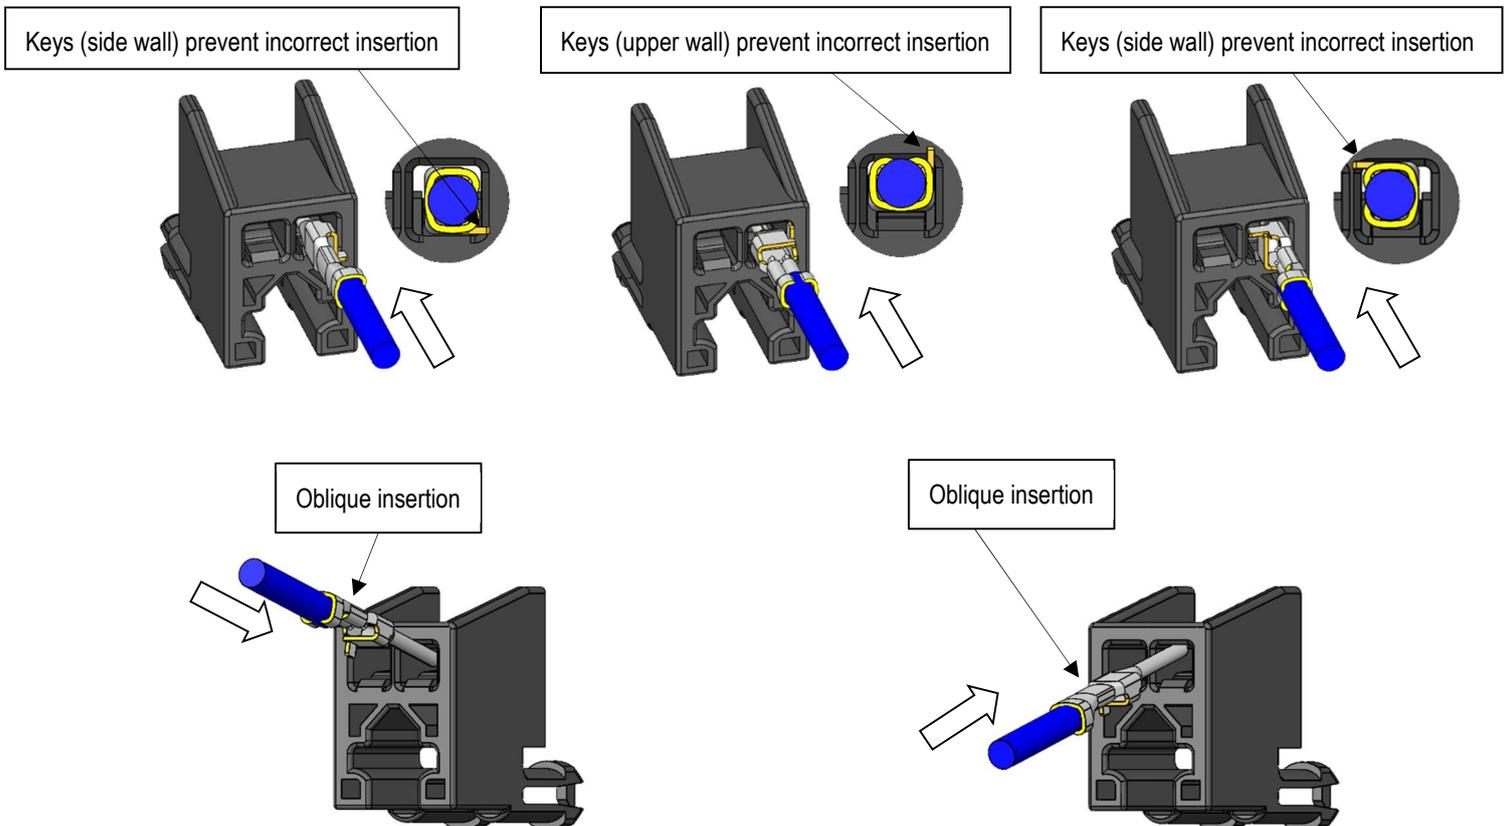

Fig24. Incorrect terminal insertion
- ① Terminals must be inserted in the orientation instructed. Forcibly inserting terminals in any other orientation may result in damage or deformation. Furthermore, if the terminals are inserted with incorrect orientation, terminal key prevents insertion into core holes. (See Fig.24)
- ② Once the terminal is inserted, do not apply excessive pulling force to the wire.